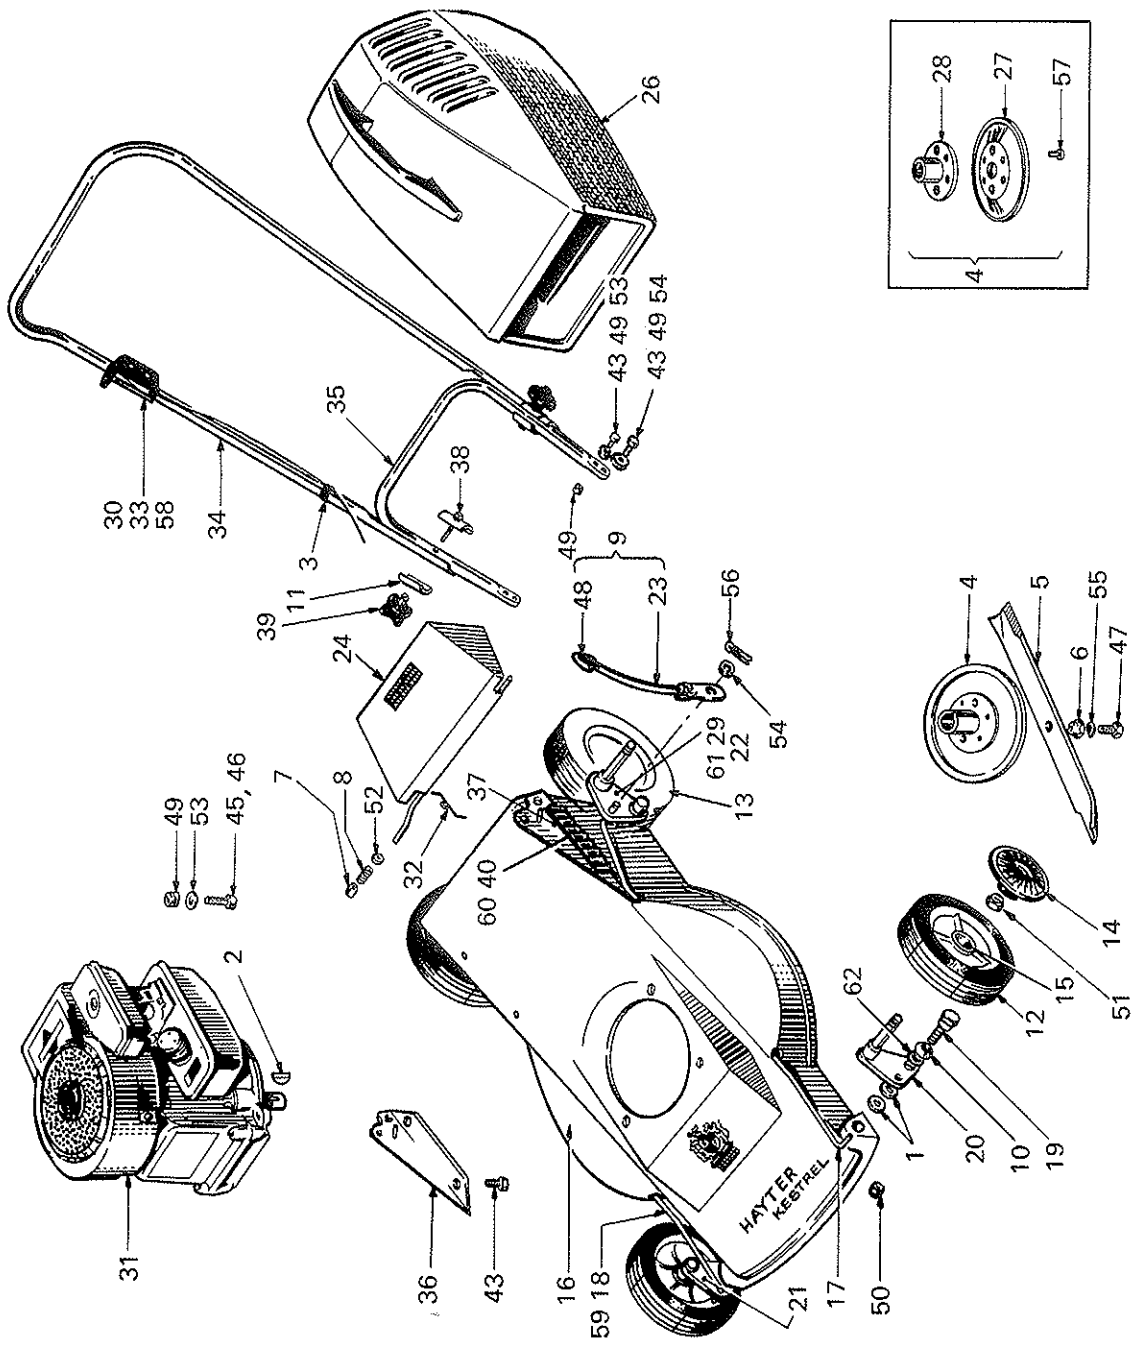

Fig. 2 MAINFRAME ASSEMBLY
**Cutterbar:** The Hayter cutterbar is friction driven by the dished bottom plate when in use. In the event of the cutterbar striking an obstruction the cutter bar is free to move relative to the bottom plate to a new position at which it will continue to cut. Regular inspection of the cutting mechanism is recommended to ensure that the cutterbar is in good condition. Should the cutterbar be damaged to the extent that it is likely to become out of balance it should be replaced immediately, ensuring that the new cutterbar is fitted exactly as shown in Fig. 2 and that the retaining setscrew, Item No. 45 is tightened securely. The cutterbar may be resharpened, ensuring that both cutting edges are evenly sharpened to maintain the balance.